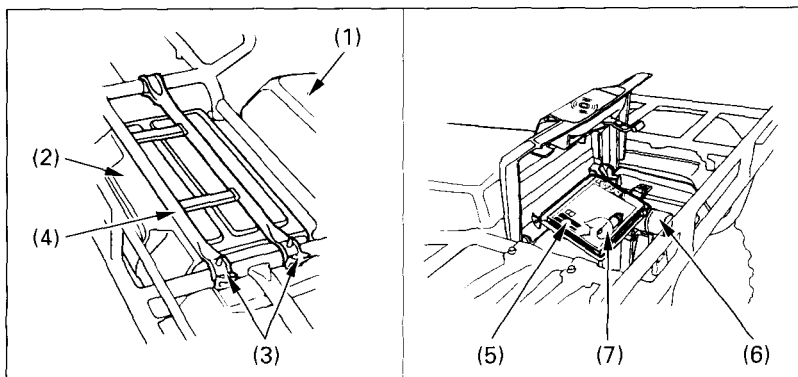

Fig. 2-23 (1) Seat
The storage compartment (Fig. 2-23) is behind the seat. To open the compartment, unhook the rubber straps (3) and lift the rear rack (4). The owner's manual (5), tool kit (6), and air pressure gauge (7) should be stored in the storage compartment.